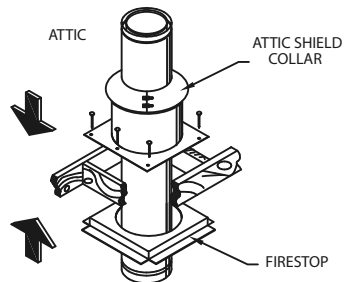

Figure 10
- d. Secure the Attic Insulation Shield to the top of the framed opening using at least (2) 8-penny nails or (2) #8, 1-1/2" wood screws per side (**Fig. 10**).
- e. Wrap the Collar of the Attic Insulation Shield around the chimney and fasten it loosely. Slide the Collar down to meet the Attic Insulation Shield. Tighten the bolts to secure the Collar in place (**Fig. 10**).